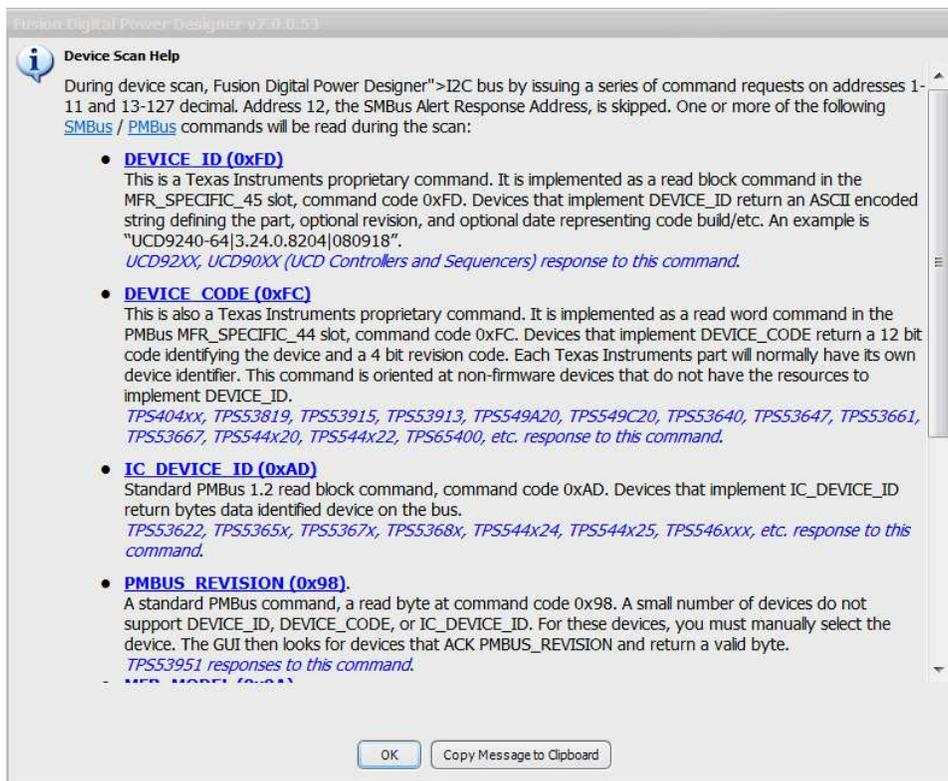

Figure 3-7. Device Scan Help
- Custom scan mode: some devices use PMBUS\_REVISION (ReadByte 0x98) or MFR\_MODEL (ReadBlock 0x9A) as a way to identify themselves on the bus. Click the Scan for Device button to customize the scan mode (see Figure 3-7).